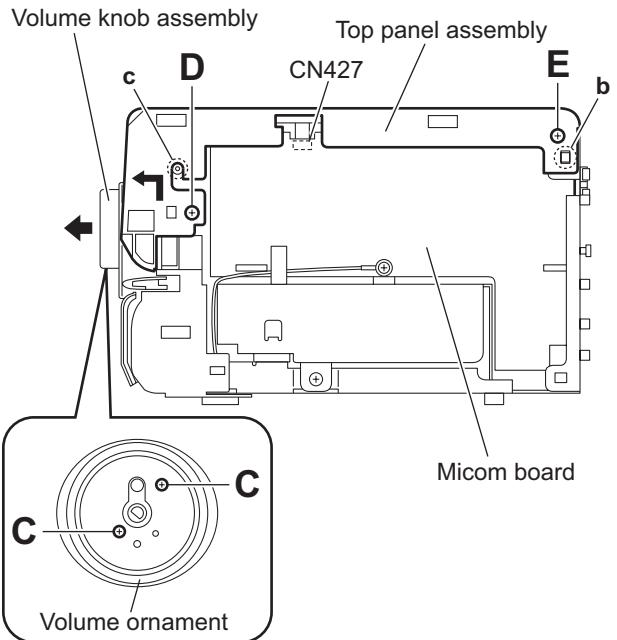

Fig.5
(See Figs.5 to 6)
- (1) From the front side of the main body, pull out the volume knob assembly in the direction of the arrow. (See Fig.5.)
- (2) Remove the two screws **C** and remove the volume ornament. (See Fig.5.)
- (3) From the both sides of the main body, remove the two screws **D**, two screws **E** and screw **F**. (See Figs.5 and 6)
- (5) Release the joints **b** and remove the joints **c** in the direction of the arrow. (See Figs.5 and 6.)
- (6) Disconnect the card wire from the connector **CN427** on the micom board while lifting the top panel assembly. (See Fig.5.)